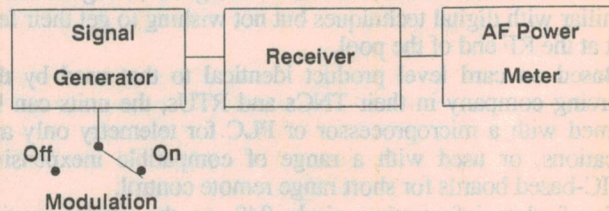

Fig.3.2: Noise limited sensitivity
- i) Connect the equipment as shown in Fig.3.2.